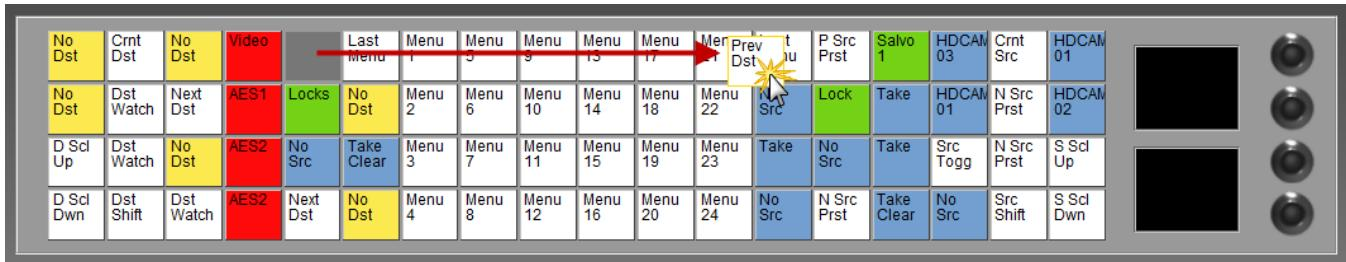

Figure 5-9: Moving Buttons using Drag and Drop
9. The user can move the location of the buttons by selecting a button and holding the mouse down, then dragging the button to the desired location and releasing the mouse button to drop the button into place. Please refer to Figure 5-9.